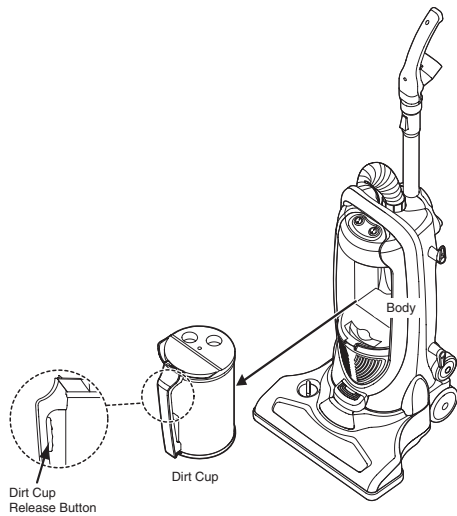

Fig. 19
- Grasp the dirt cup handle and depress button, pull out the dirt cup from body. (Fig. 19)